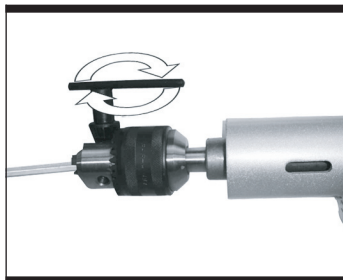

Fig 4
3. Inserting a tool into chuck (See fig4)